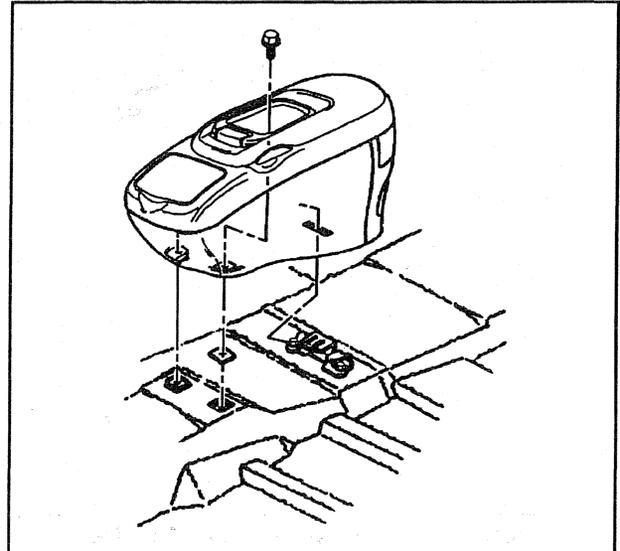

Figure 20—Floor Storage Compartment
**↔↔ Remove or Disconnect (Figure 20)**
**↔↔ Install or Connect (Figure 20)**